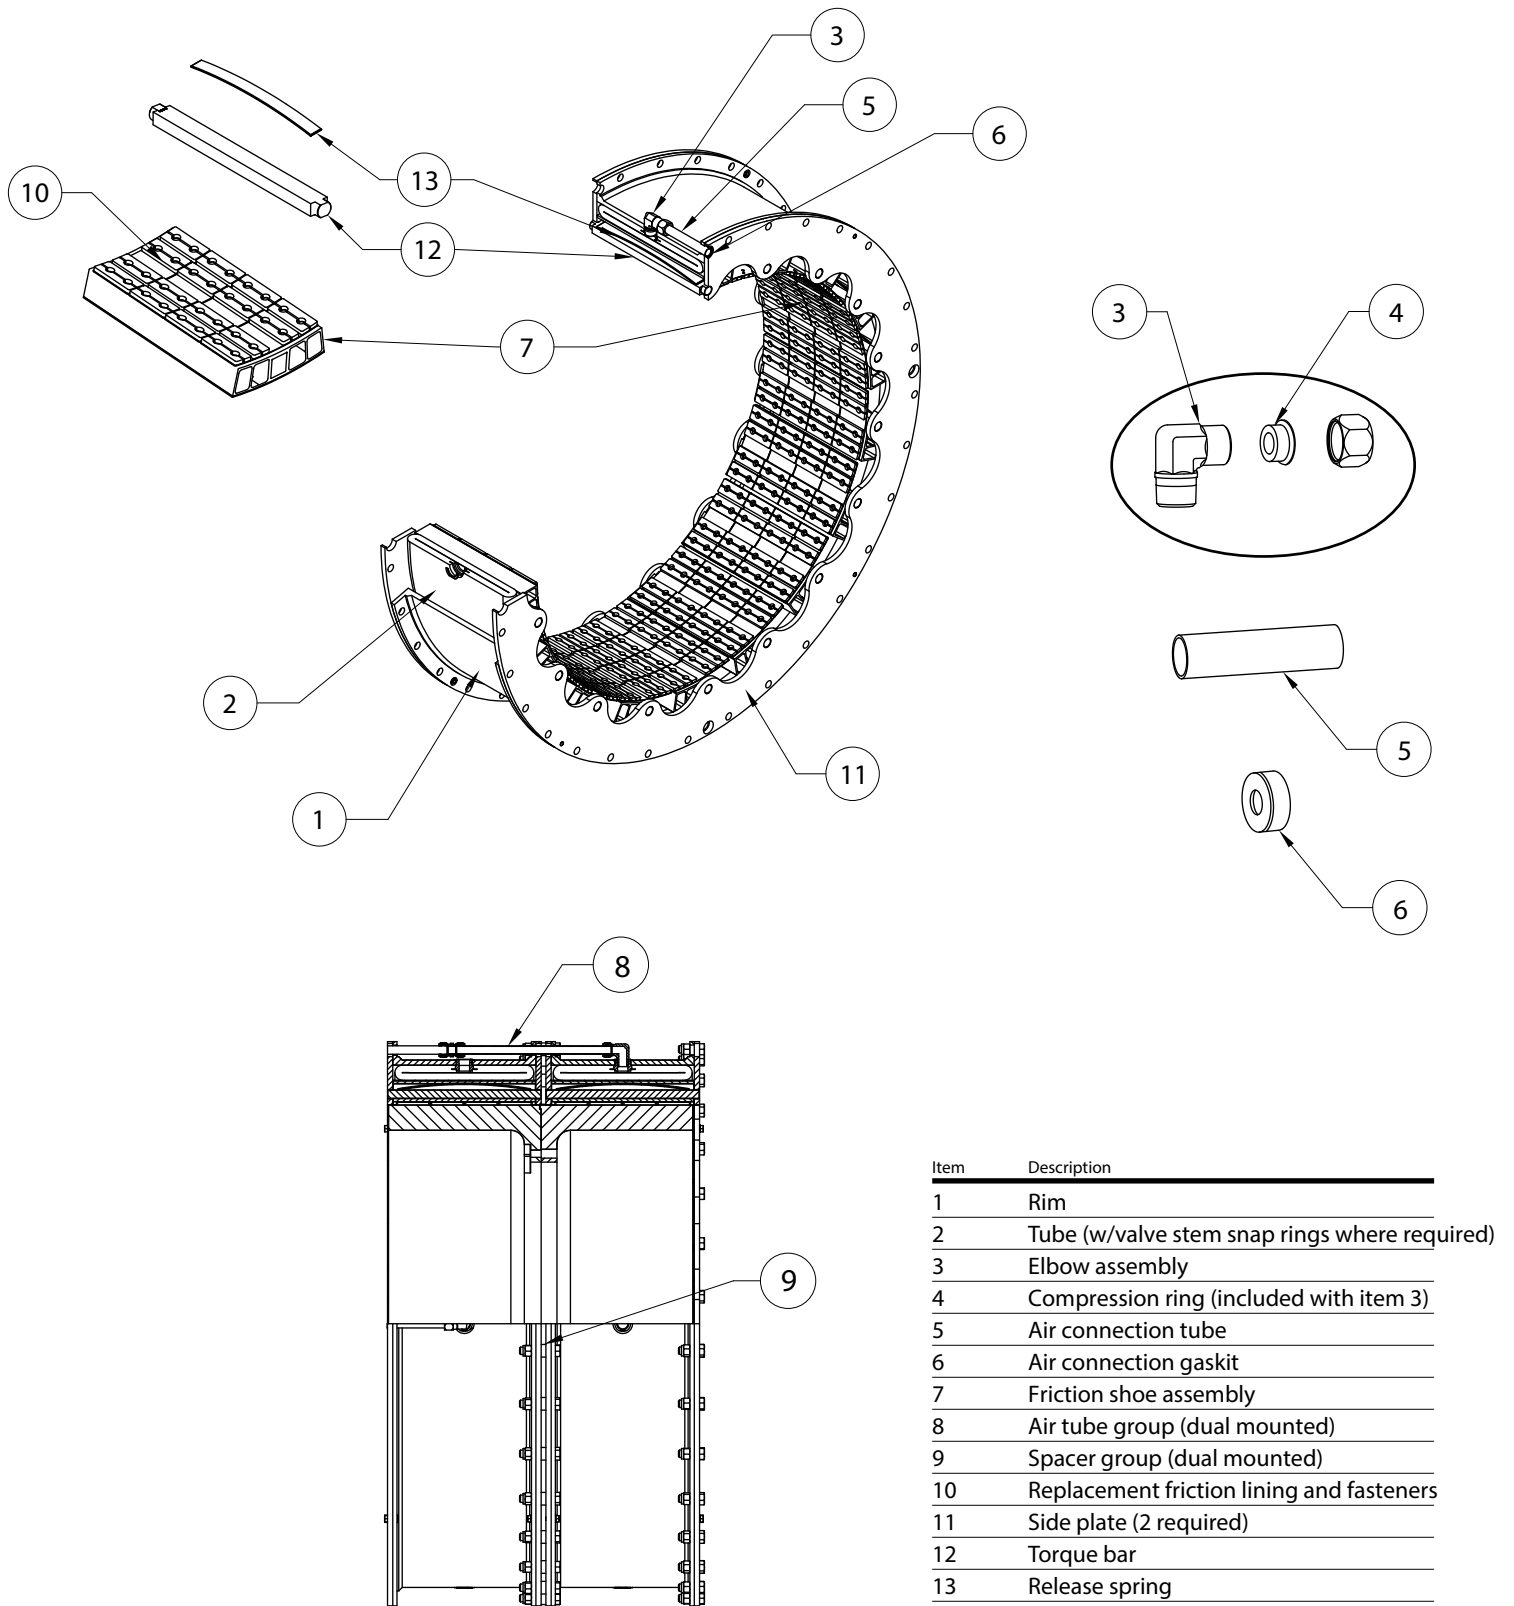

Figure 1
- 1.2.1 Referring to Figures 1 and 2, the neoprene and cord actuating tube is contained within a steel rim which is drilled for mounting to the driving component. As air pressure is applied to the air actuating tube, the tube inflates, forcing the friction shoe assemblies uniformly against the drum, which is attached to the driven component. The friction shoe assemblies, which consist of friction blocks attached to aluminum backing plates, are guided by torque bars which are secured to side plates. The torque flow is from the driving shaft, through the element mounting component (typically an iron spider), through the rim side plate structure, through the torque bars to the backing plates and friction material, where the torque is transmitted through the friction couple to the components mounted on the driven shaft (clutch drum and drum mounting component). As actuating air is exhausted, release springs and centrifugal force assure positive disengagement.